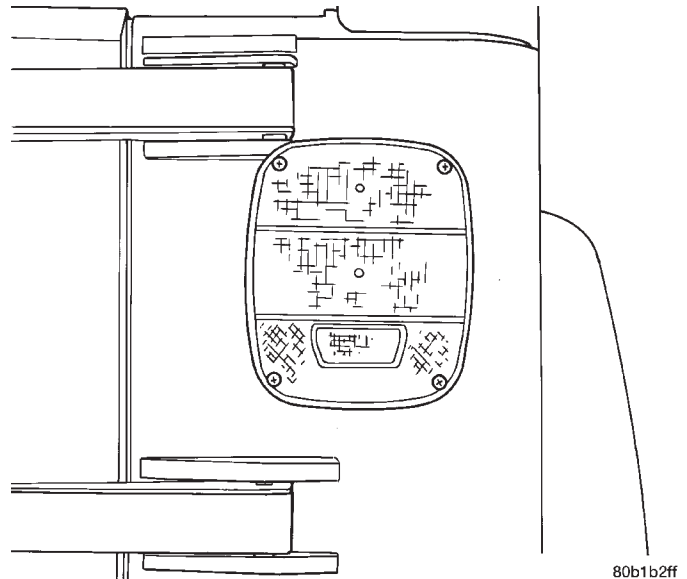

Fig. 6 Tail Lamp Lens
(1) Remove the tail lamp lens attaching screws and lens (Fig. 6).